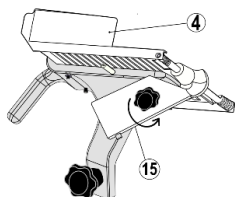

FIG 4. RELEASING HANDGRIP
1.- Place the product to be cut on the carriage tray (4).
2.- Unlock the grip (15) from under the carriage tray, move it to the top of the slide rod, do not force this operation, then rotate the grip (15) counter clockwise to its position over the product (See Fig. 4).